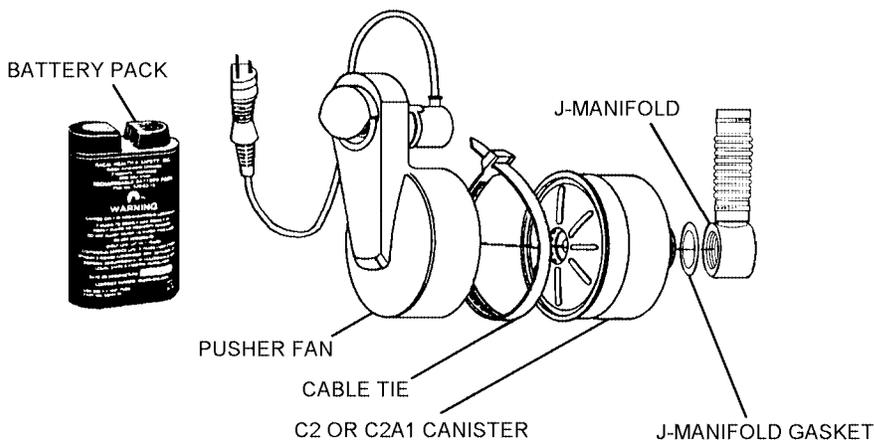

Figure 4-22. Pusher Fan Subassembly
**4-31. J-Manifold.** The J-manifold (figures 4-22 and 4-24) is manufactured from aluminum stock. The large circular end of the manifold is threaded to accept a C2 or C2A1 canister and contains a rubber gasket that provides the canister with an airtight seal. The other end is connected to the manifold hose and is secured with stepless low profile clamps.
**4-32. Pusher Fan Subassembly.** The pusher fan subassembly (figure 4-22) is common to all the respirator assembly variants and consists of the J-manifold with gasket, C2 or C2A1 canister and pusher fan with battery.